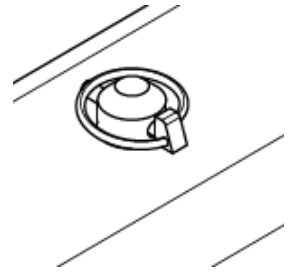

Figure 10: Securing in position
- Check whether the locking pin and clip of the length adjustment has been placed.(see figure 10)